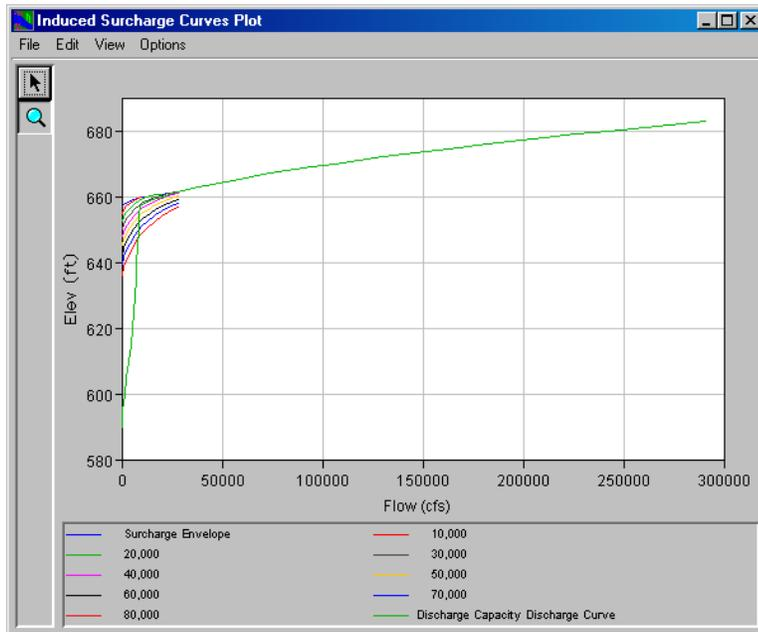

Figure 11.23 Plot of Computed Induced Surcharge Curves
5. Select **Plot Surcharge Curves** to see plots of the computed Induced Surcharge Curves (Figure 11.23) based on the data you have entered.